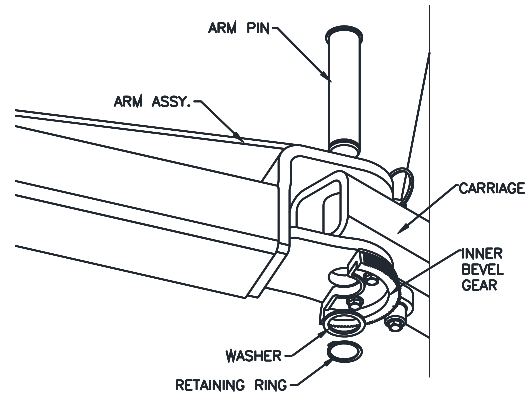

Fig. 19 – Arm Pin Keeper Install
- 49) Install the provided retaining ring onto the pin with tool, **Fig. 19**.